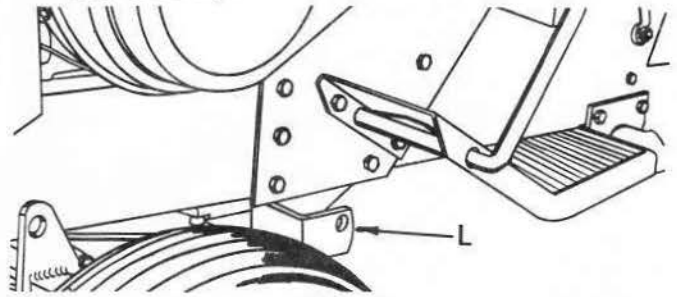

FIG. 6
9. Refer to Fig. 6. Install L.H. front hanger (L), to tractor as shown. Use bolts in tractor. If tractor is equipped with L.H. front hanger disregard the above instructions.